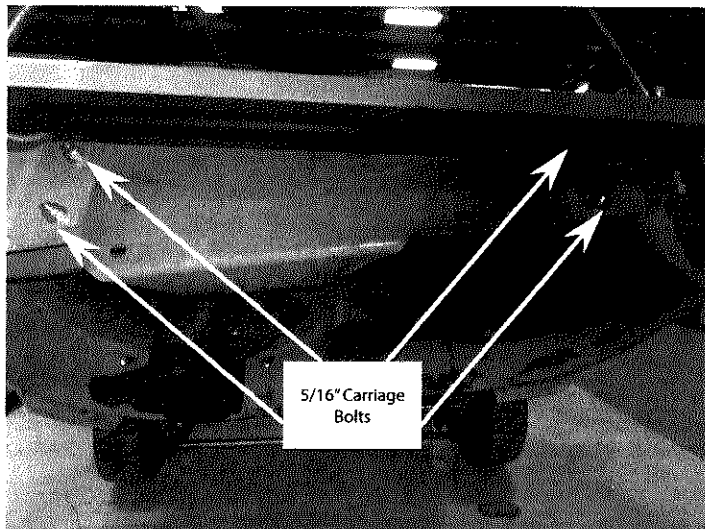

Figure 4
7. Locate the four 5/16" carriage bolts on the underside of the axle support weldment mounting the front axle support weldment to the cutter deck. See Figure 4. Remove the four 5/16" flange elastic stop nuts and carriage bolts from the front axle weldment. After all six carriage bolts and nuts have been removed, use caution to slowly remove the axle support assembly with the deck lift weldment from the front of the cutter deck. Discard all hardware.